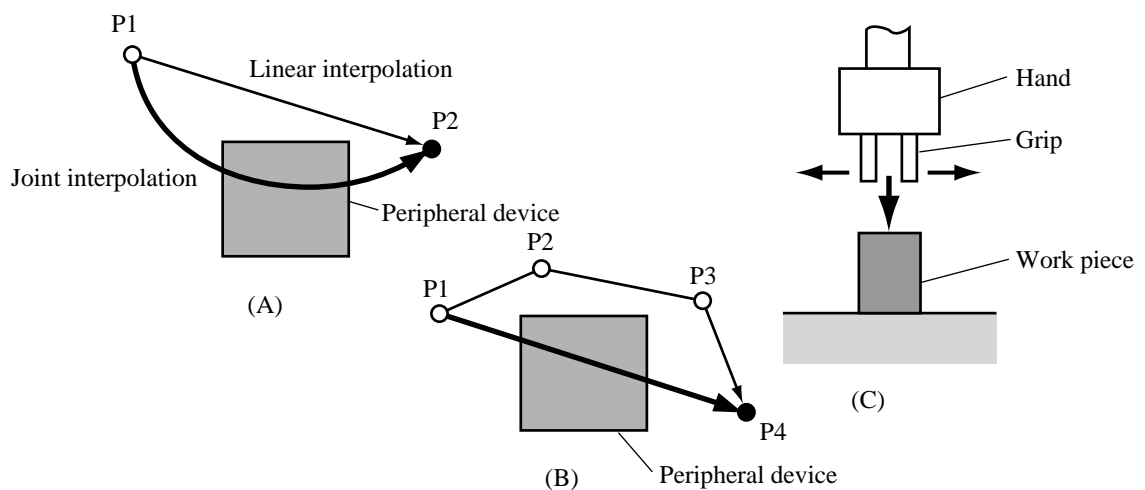

Fig.2 Example of work mistake during teaching
An example of an interference mistake by the robot and peripheral device such as the workpiece, which may occur easily during teaching, is shown for reference in Fig. 2. Here, (A) is interference during movement with joint interpolation, (B) is interference caused by an incorrectly set movement destination position No., and (C) is interference caused by an incorrect hand grip open/close setting.